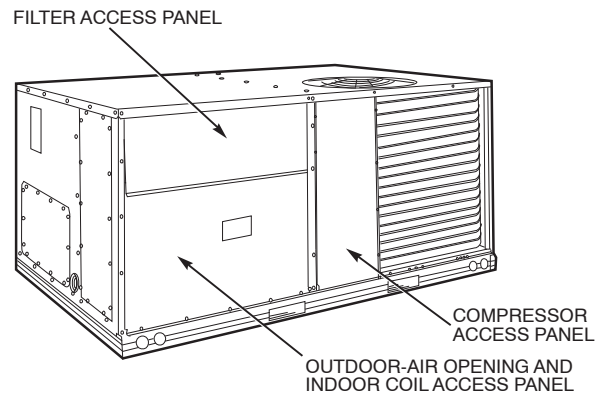

Fig. 7 - Typical Access Panel Locations
2. To gain access to the hood, remove the filter access panel. (See Fig. 7.)